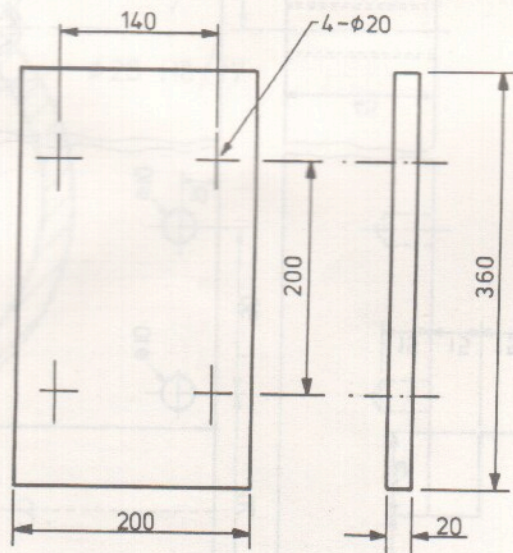

FIG. 5.
5. (a) Fig. 5 shows the plate for a beam to stanchion flange connection. Draw to scale a pictorial view of the connection in *isometric projection*. The plate is welded to the end of the beam and bolted to the stanchion flange.